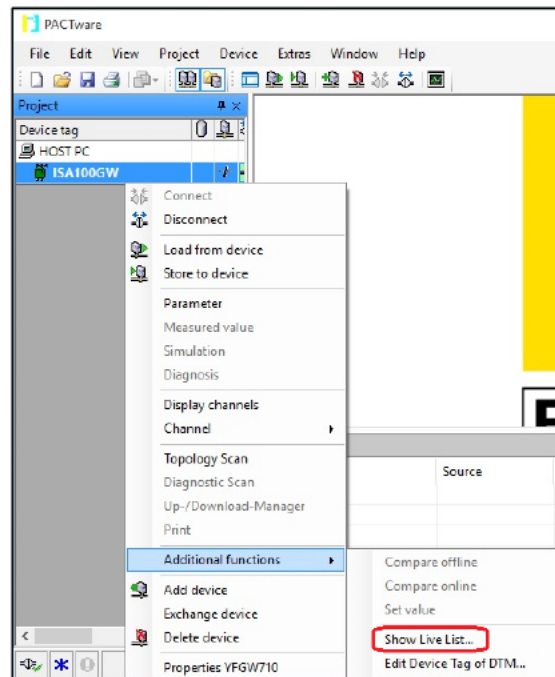

Figure 5-25 Selecting “Show Live List...” menu
- ④ Next, check to confirm that PACTware and the ISA100.11a wireless upstream system are correctly connected. Right-click “ISA100GW” in the tree menu on the left side of the main window, then select “Show Live List...”. (Figure 5-25)